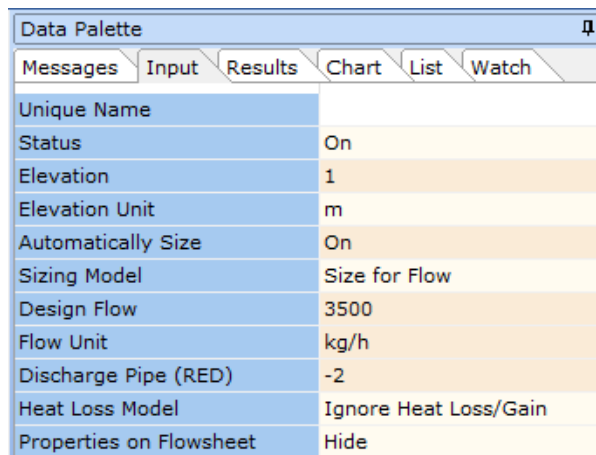

Figure 29: Input Inspector at Compressor.
24. The Input Inspector on the *Data Palette* should now look like the screenshot given below (Figure 29).